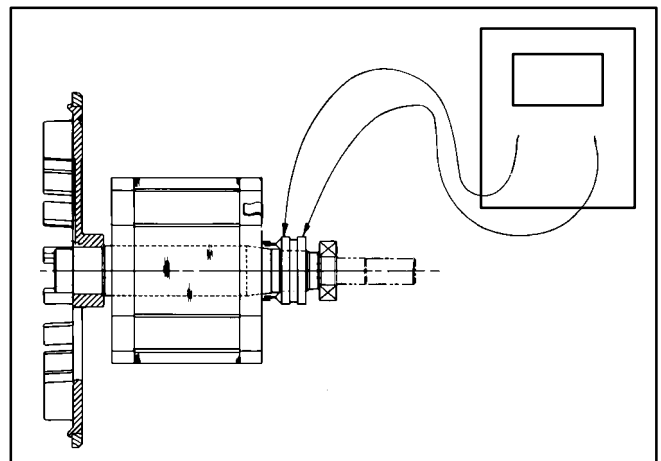

FIGURE 74. ROTOR WINDING RESISTANCE
**Testing Winding Resistance:** A digital ohmmeter is recommended for measuring rotor winding resistance. Select the best scale for measuring a 20 to 25 ohm value. Touch the test probes to the slip rings as shown in Figure 74.